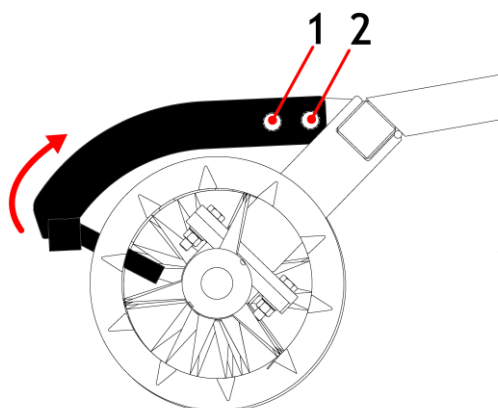

Figure 16 Change of position comb (1 and 2 - screws holding comb arm)
The pin shaft comb can be tilted to remove any stones, branches, or other foreign objects that may be obstructing the shaft's rotation. To do this, unscrew and remove the screws (Fig. 16, item 2) and loosen the screws (Fig. 16, item 1) on the comb arm, which will allow the comb to tilt. To disassemble, unscrew and remove the screws (Fig. 16, item 1).